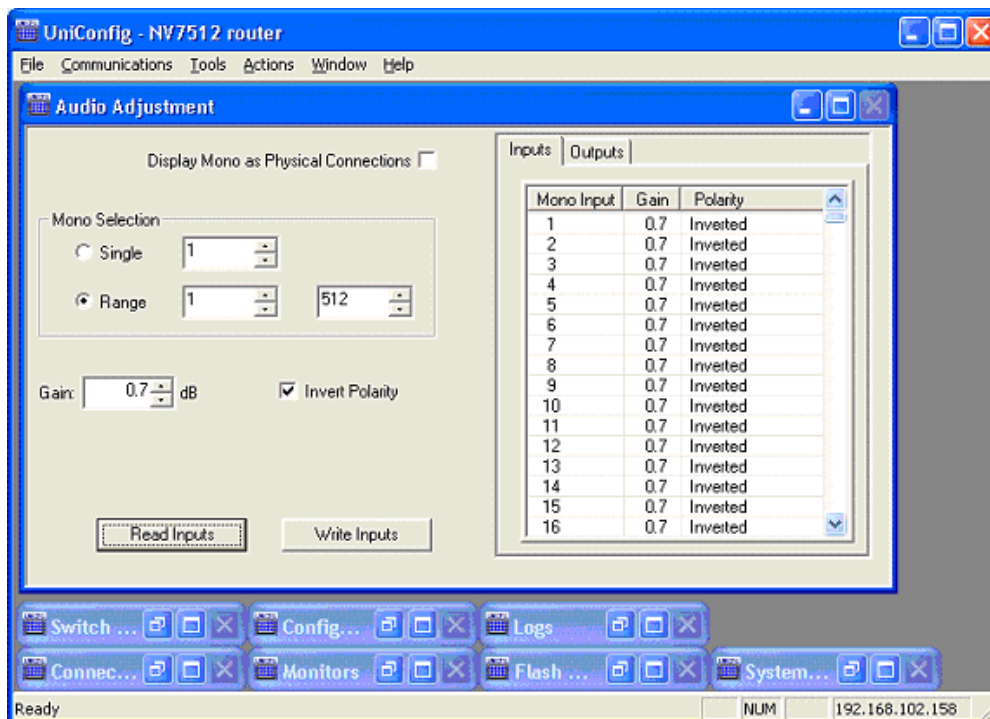

Figure 3-6. UniConfig Audio Adjustment Window
- 2 From the menu bar, select 'Window > Audio Adjustment'. The 'Audio Adjustment' window appears, as shown in Figure 3-6 on page 82.
- 7 (Optional) To display each left or right channel of a stereo signal, check the 'Display Mono as Physical Connections' check box, as shown in Figure 3-6.